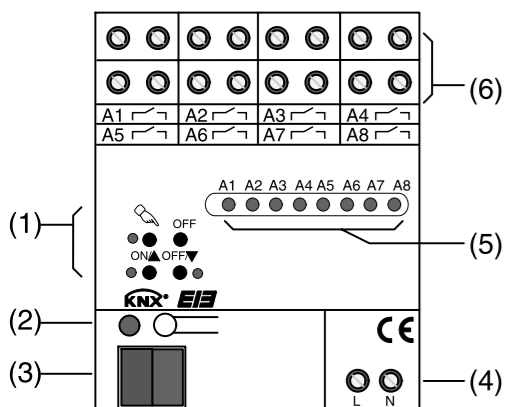

Fig. 1: Device layout
- Connect the bus line to the bus terminal (Fig. 1, 3).
- Connect the mains supply (Fig. 1, 4).